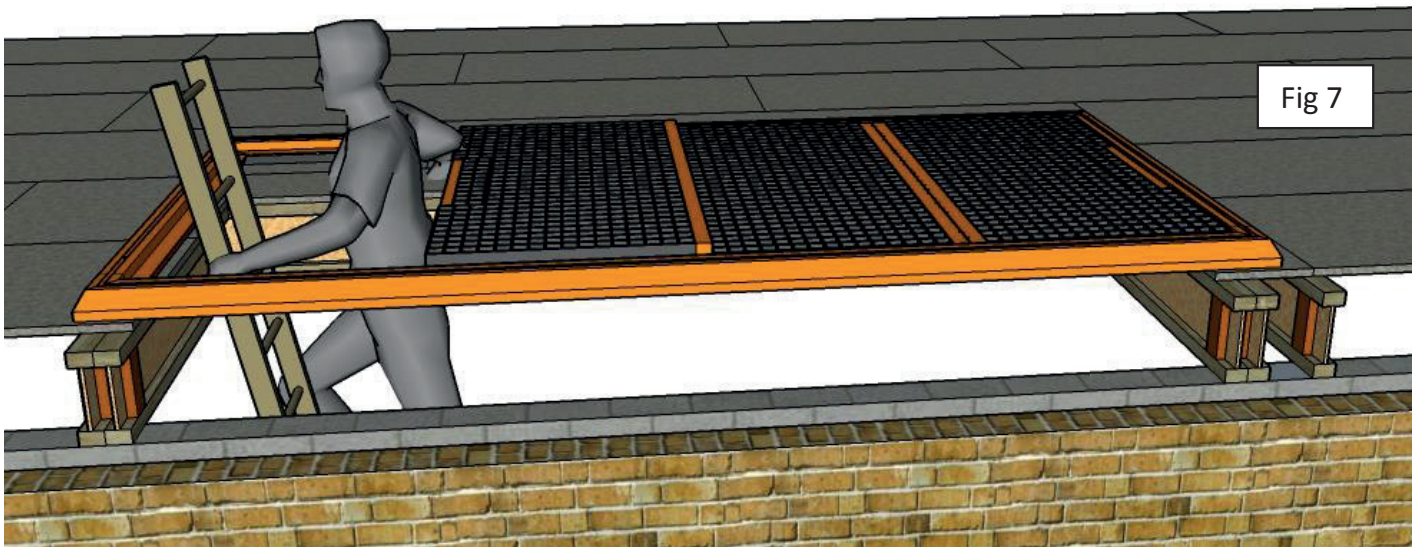

Fig 7
9. To access the floor level, climb ladder, lift and push the WellSafe™ frame grille back and climb through onto the completed floor (Fig 7).